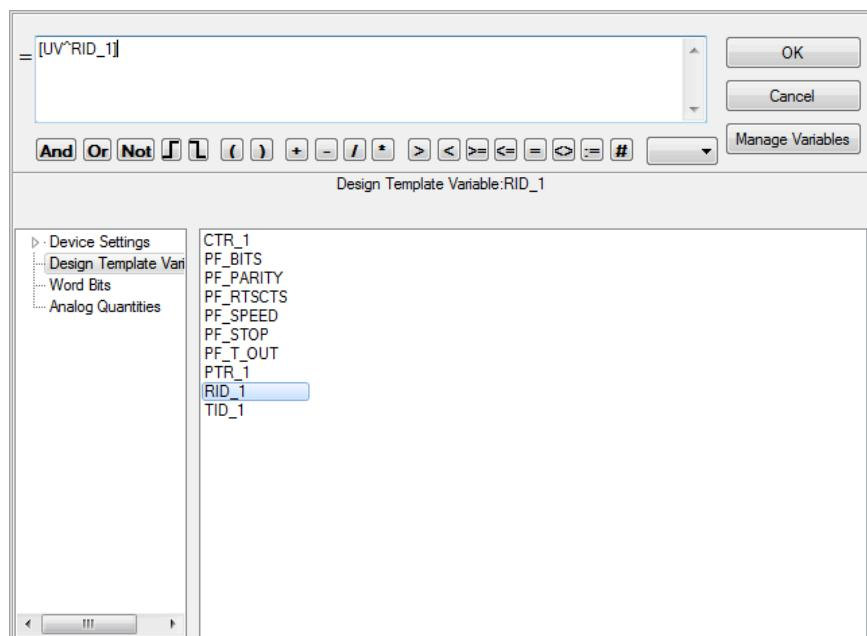

Figure 6.35 Double-Click an Element to Add It to the Equation
Step 14. In the right side of the **Equation Builder**, highlight the "FEEDER 1" text and delete it. Next, select the **Design Template Variables** group and double-click the RID_1 element (see *Figure 6.35*). When finished, click **OK** to apply the equation edits.